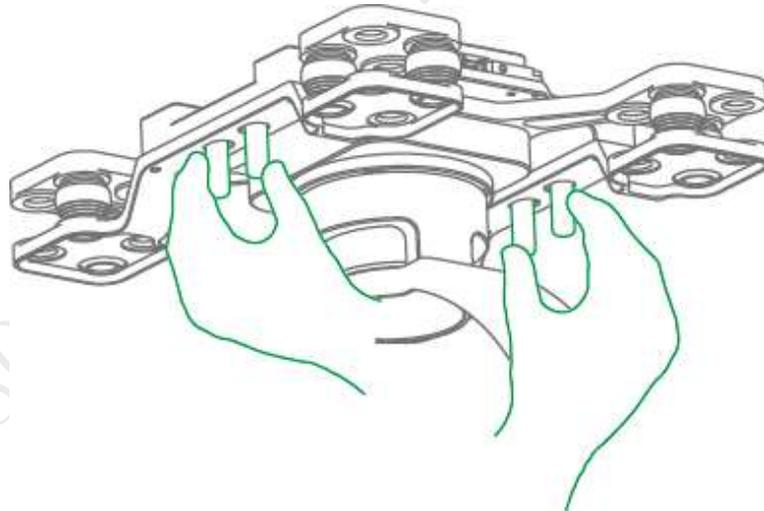

Figure 5-6
Step 1 Hold 2 handles of the PTZ camera with both hands and pull them downwards, as shown in Figure 5-6.